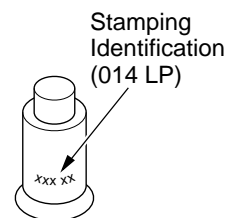

Figure 15 - Pilot Orifice Stamping Identification Location
7. Remove original pilot orifice using needlenose pliers or fingertips. Replace with the pilot orifice supplied with conversion kit. **Note:** The new pilot orifice has 014 LP stamped on it for identification purposes (see Figure 15).